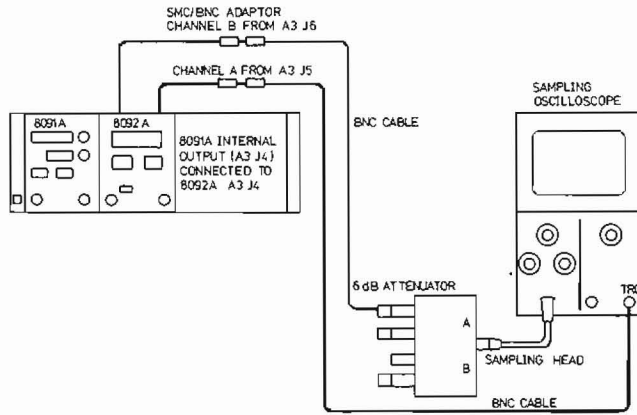

Figure 4-1
1. Position baseline on scope 1.5 divisions (+ 300mV) above center graticule without input signal and connect equipment as shown in Figure 4-1.